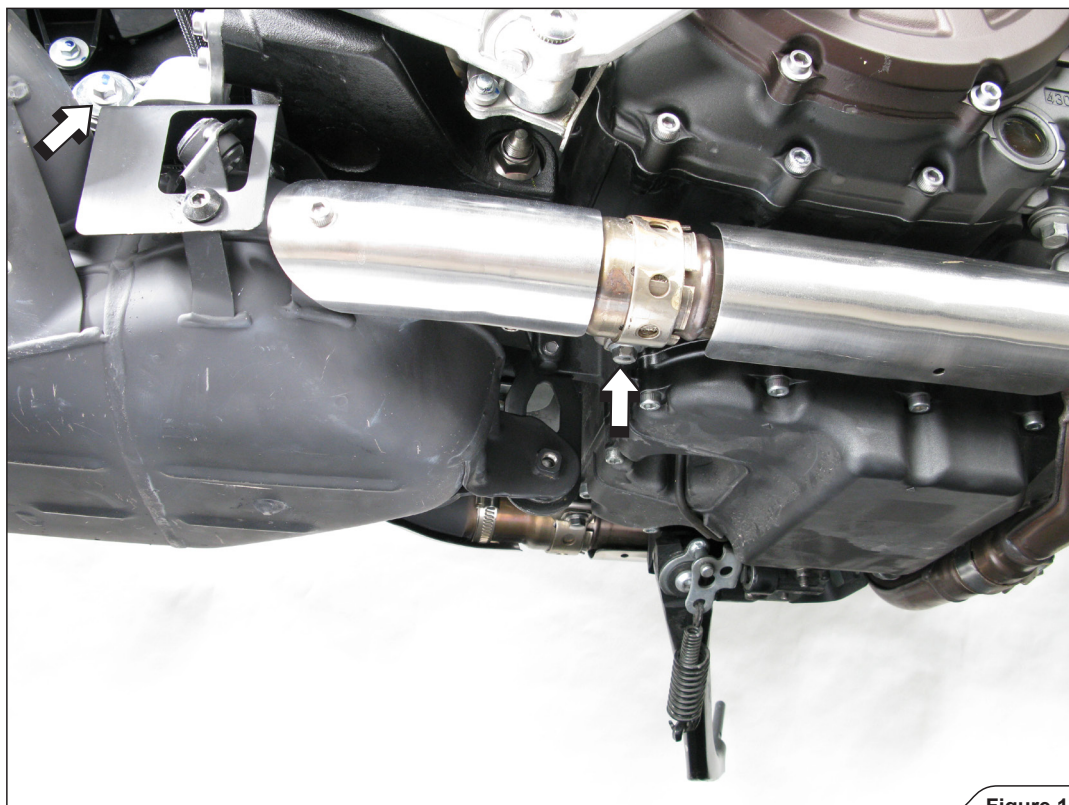

Figure 17
15. For OPEN SLIP-ON only: untighten the metal clamp at the catalytic converter box - header tube joint and unscrew the marked bolt from chassis hanging bracket of the catalytic converter box (Figure 17).